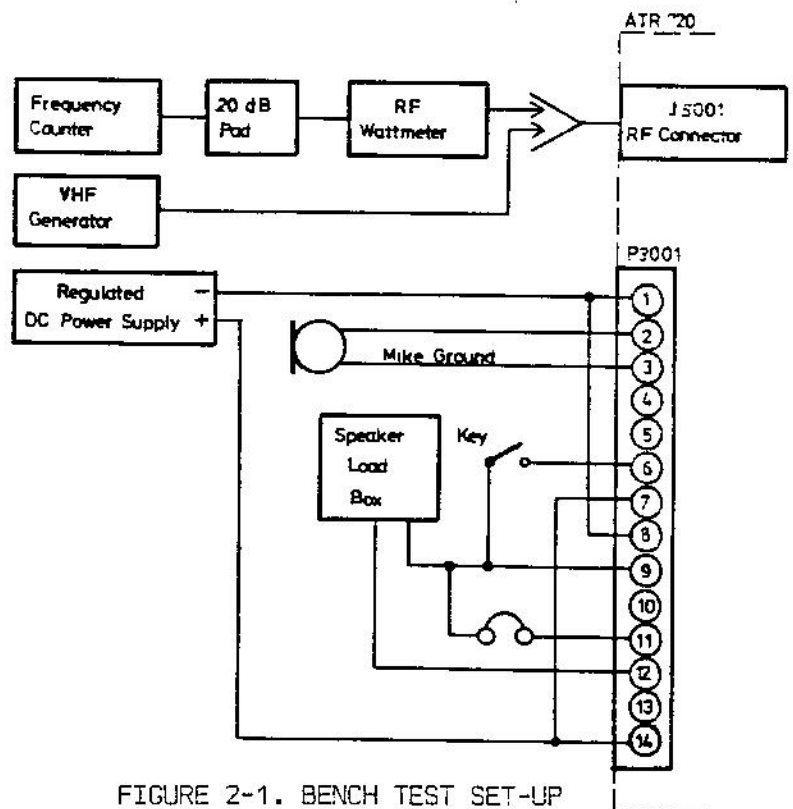

FIGURE 2-1. BENCH TEST SET-UP
- a. Connect the COMM Unit into the test set-up, diagramed in Figure 2-1, and set the DC supply for 13,75 vdc.
- e. Disconnect the signal generator. Connect the RF wattmeter and frequency counter as diagramed in Figure 2-1.
- a. Connect the Unit into the test set-up diagramed in Figure 2-1.